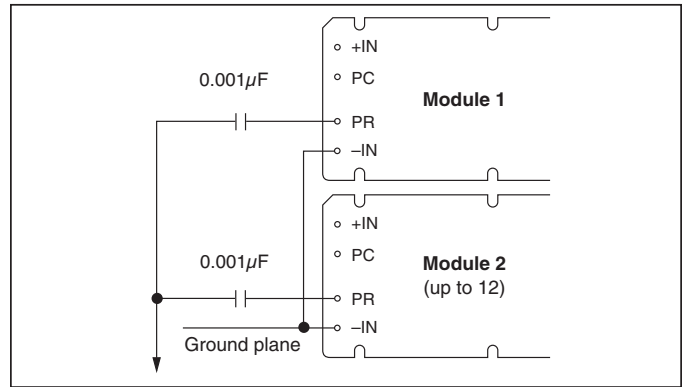

Figure 10 — AC coupled single-wire interface.
**AC coupled single-wire interface.** All PR pins are connected to a single communication bus through 0.001 μF (500 V) capacitors. This interface supports current sharing and is fault tolerant except for the communication bus. See Figure 10.